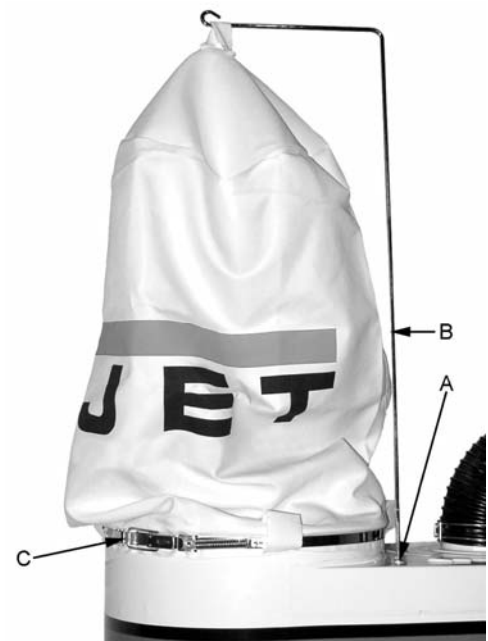

Figure 5
Referring to Figure 5:
1. Insert the *snap ring* of collector bag into the bottom of *housing* at an angle (Figure 5).